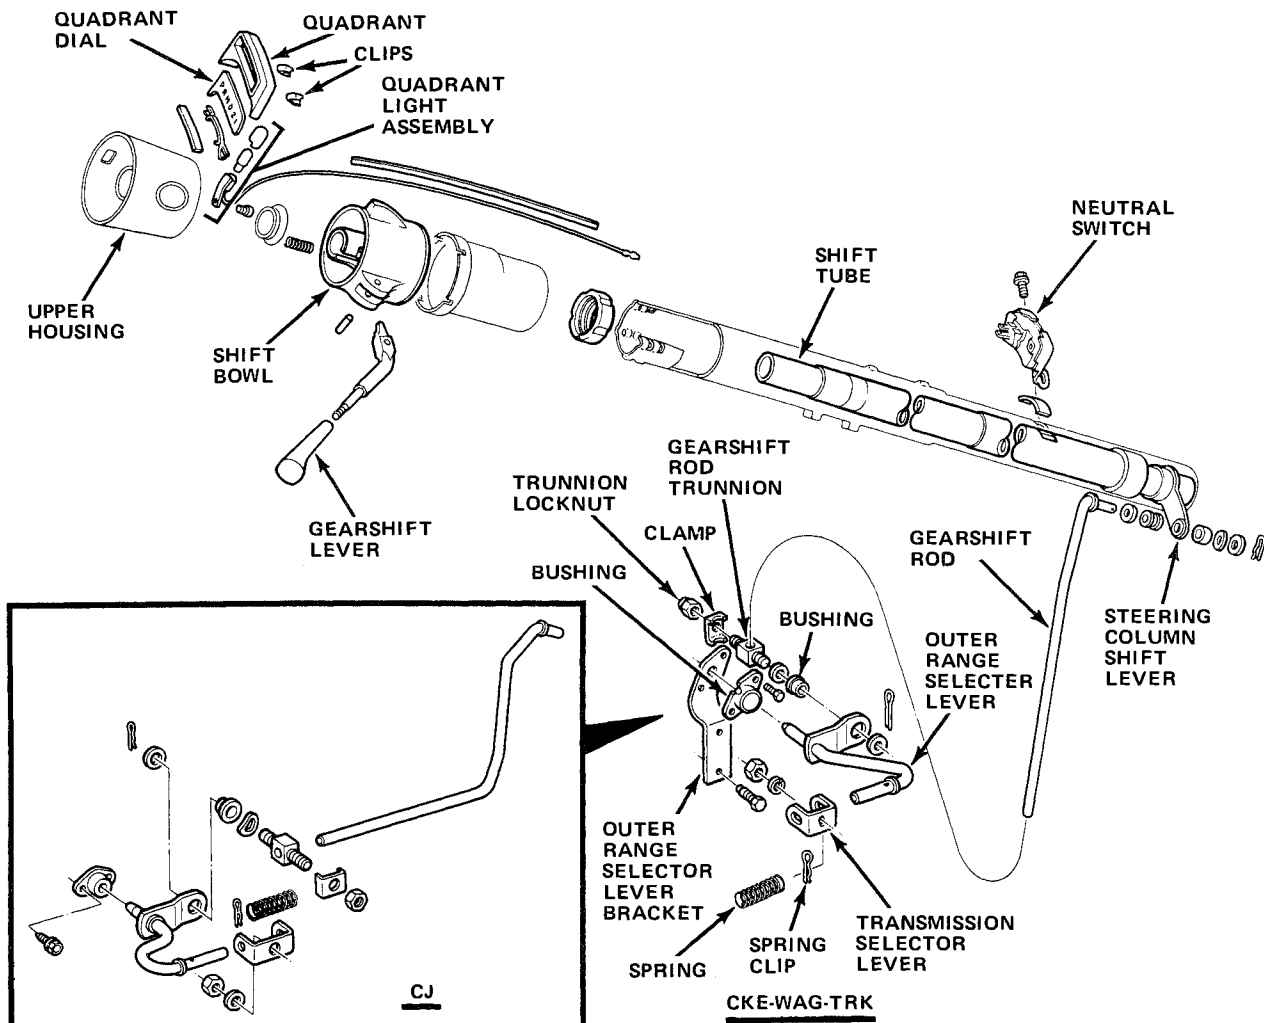

Fig. 2C-6 Manual Linkage and Neutral Switch
- (1) Place gearshift lever in Neutral.
- (2) Raise vehicle on hoist.
- (3) Loosen gearshift rod trunnion locknut just enough to permit movement of rod in trunnion (fig. 2C-5).
- (4) Place transmission outer range selector lever fully into neutral detent position and tighten gearshift rod trunnion locknut to 9 foot-pounds torque.
- (5) Lower car and operate gearshift lever in all ranges. Vehicle should start in Park and Neutral only and gearshift lever should engage properly in all detent positions. Readjust linkage if operation is not satisfactory.
(3) Remove neutral switch from steering column. Switch is located at base of column (fig. 2C-6).
(4) Place gearshift lever in Park and lock column.
(5) Move neutral switch actuating lever until lever aligns with letter "P" stamped on back of switch.
(6) Insert 3/32-inch drill in hole located below letter "N" stamped on back of switch.
(7) Move switch actuating lever until it stops against drill.
(8) Position neutral switch on column, install switch attaching screws, and remove drill.
(9) Check switch operation. Engine should start in Park and Neutral positions only. Backup lamp should light when gearshift lever is in Reverse position only.